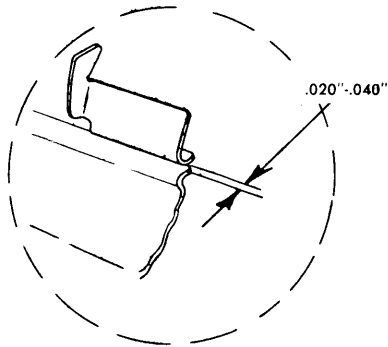

FIGURE 209. DEFLECTOR PAPER GUIDE CLEARANCE
- c. The clearance between the paper guide and the deflector will be .020" to .040" (Fig. 209).